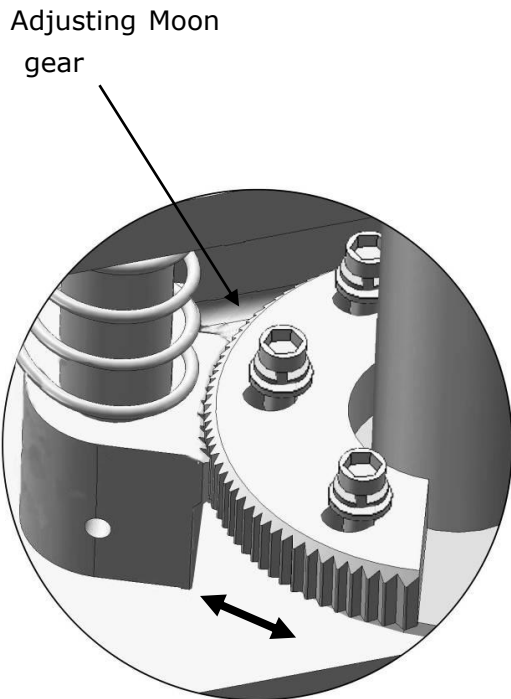

Fig. 37
3. Adjust moon gear as direction of arrow (**See Fig. 37**).